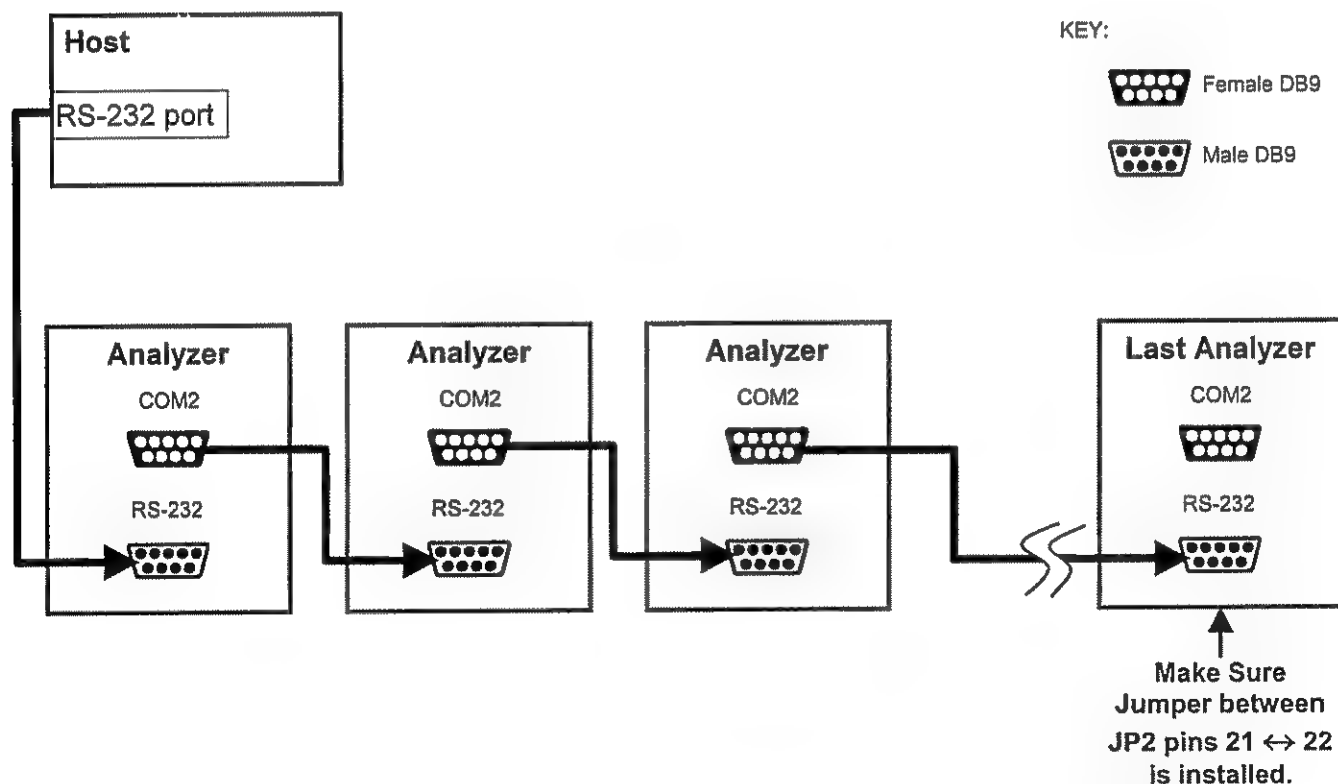

Figure 6-13: RS232-Multidrop PCA Host/Analyzer Interconnect Diagram
10. Using straight-through, DB9 male → DB9 Female cables, interconnect the host and the analyzers as shown in Figure 6-13.